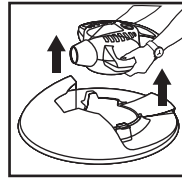

FIGURE 12
25. To remove portable blower from tank cover, grasp both blower handles and pull in an upward motion. **FIGURE 12.**